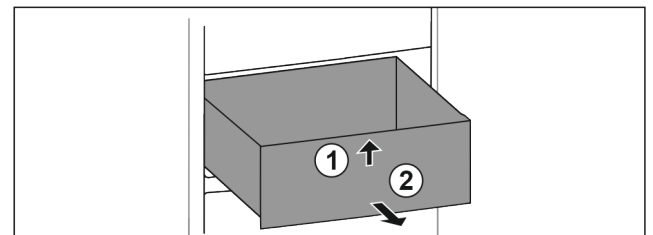

Fig. 74
- ▶ Lift up drawer at the front. Fig. 74 (1)
- ▶ Remove drawer to the front. Fig. 74 (2)